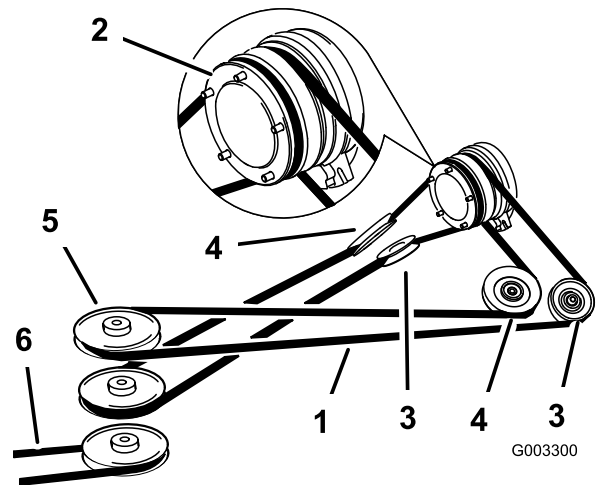

Figure 57
4. Pull on the spring loaded idler pulley to loosen the belt tension (Figure 57).
6. Install the new drive belt around the clutch pulley, the adjustable idler pulleys, the spring loaded idler pulley, and the front three stacked pulleys (Figure 57).